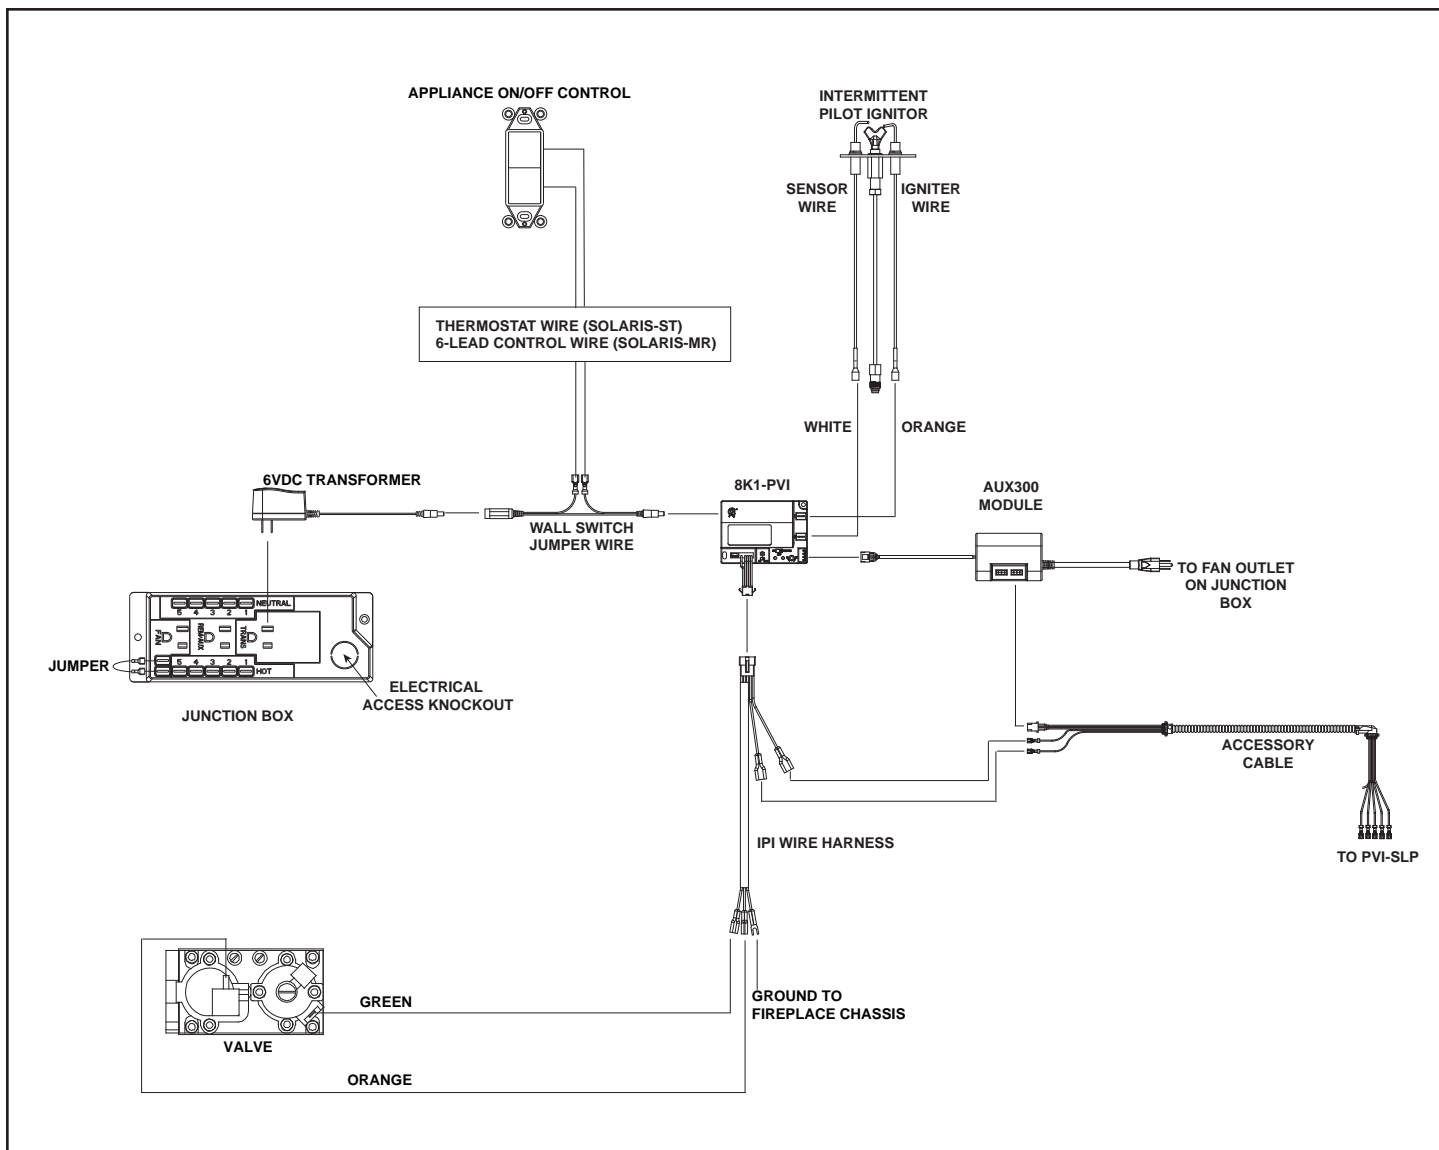
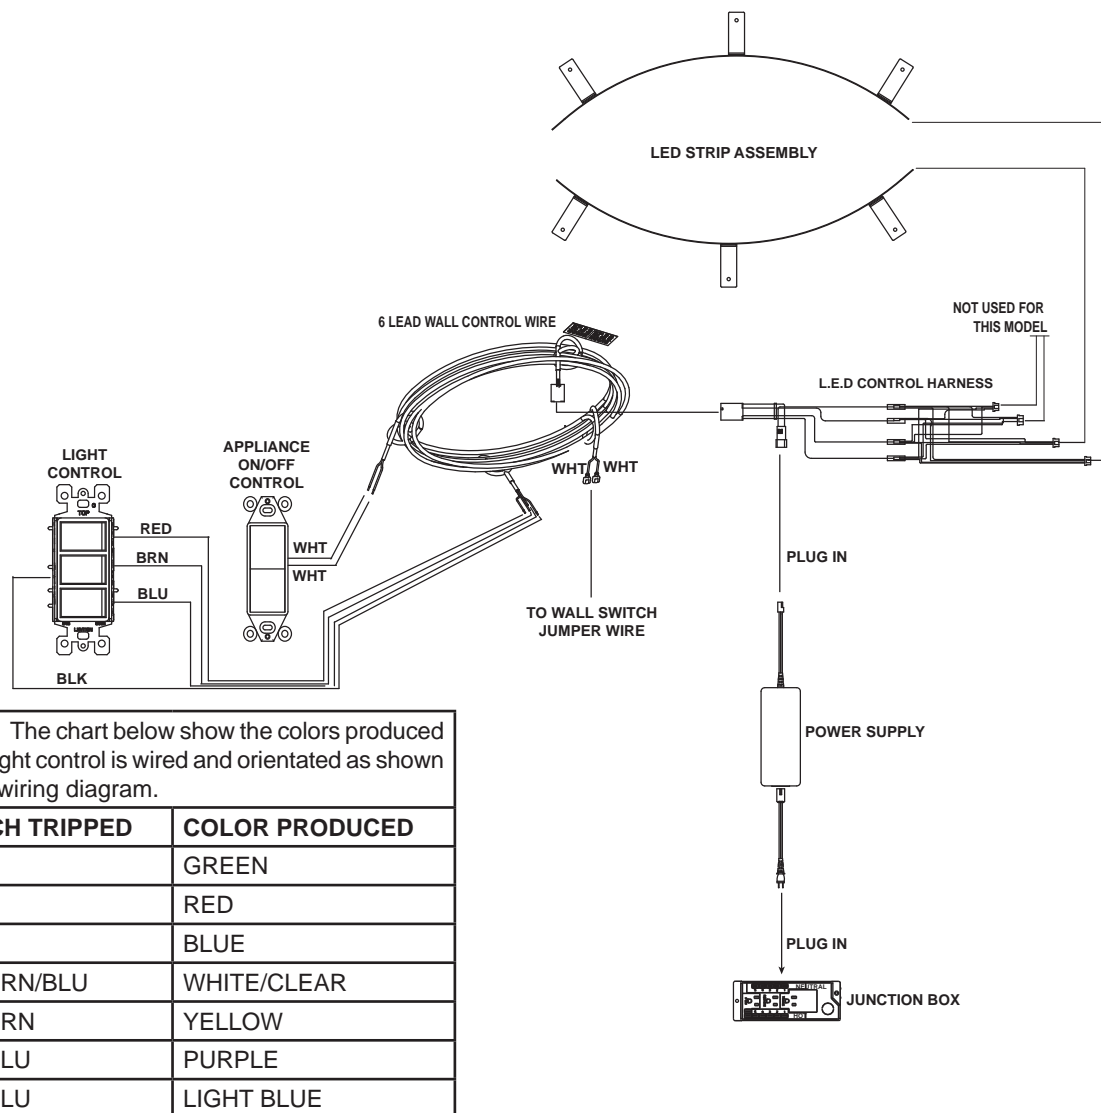

Figure 12.2 IPI Wiring Diagram
Figure 12.3 LED Wiring Diagram
- Refer to Figure 12.2, IPI Wiring Diagram for the SOLARIS36-ST and SOLARIS36-MR.
Refer to the SOLARIS36-ST and SOLARIS36-MR wiring diagrams, Figure 12.2 and Figure 12.3. Ensure wire harness has been fastened to the appliance. Route wires and wire harness in a manner that protects them from contact with sharp metal surfaces.